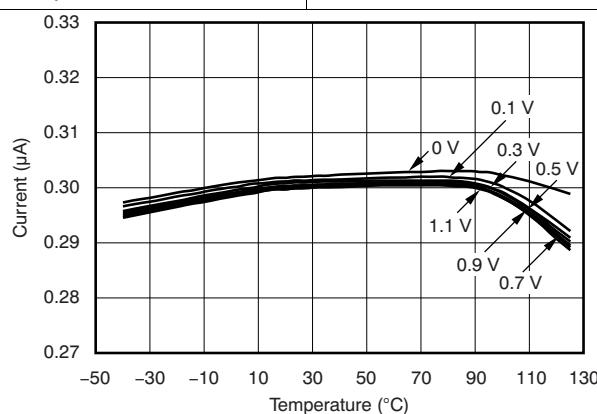

Figure 28. TPS386040 CT1 to CT4 Pin Charging Current vs Temperature Over CT Pin Voltage
(1) Toggling WDI for a period less than t_{WDI} negatively affects I_{DD} .
(2) These specifications are beyond the recommended V_{DD} range, and only define $\overline{\text{RESETn}}$ or RESETn output performance during V_{DD} ramp up.
(3) The lowest supply voltage (V_{DD}) at which $\overline{\text{RESETn}}$ or RESETn becomes active; $t_{RISE(VDD)} \geq 15 \mu\text{s}/\text{V}$.
(4) CT n (where $n = 1, 2, 3$, or 4) are constant current charging sources working from a range of 0 V to $V_{TH(CTn)}$, and the device is tested at $V_{CTn} = 0.5 \text{ V}$. For I_{CT} performance between 0 V and $V_{TH(CTn)}$, see Figure 28.